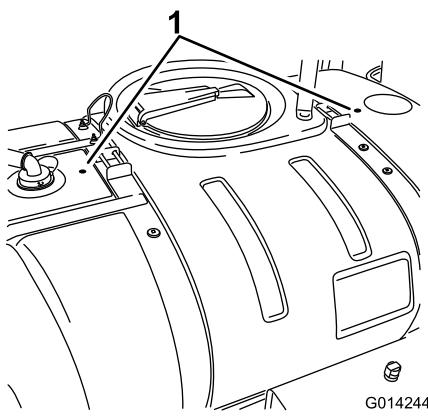

Figure 11
2. Locate the 2 drill marks in the main tank (Figure 11).